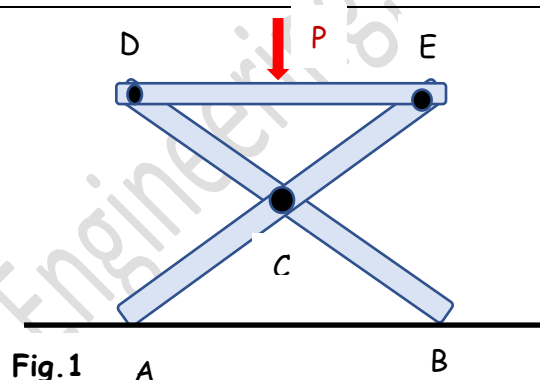

Fig.1
Q.1 Consider the frame shown in figure 1 formed by three bars. BD and AE are pinned at C and load P is acting at the centre of bar DE. The frame rests on a smooth horizontal surface. Calculate the forces in the pins at C, D, and E. Take the distance AB and AD as 1m each.